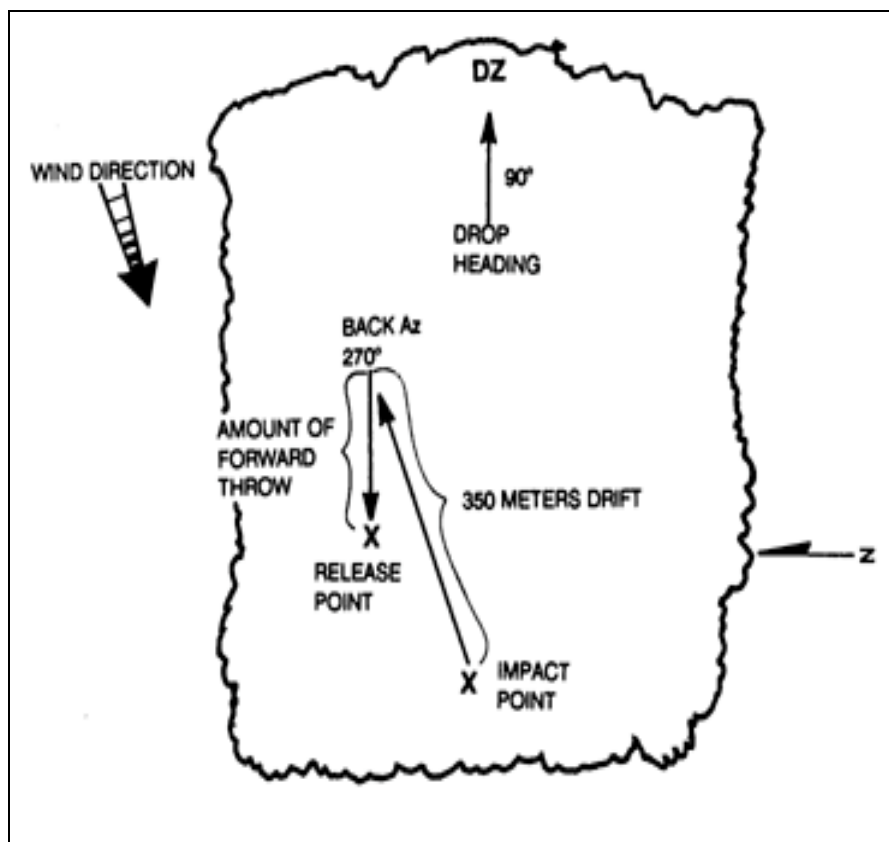
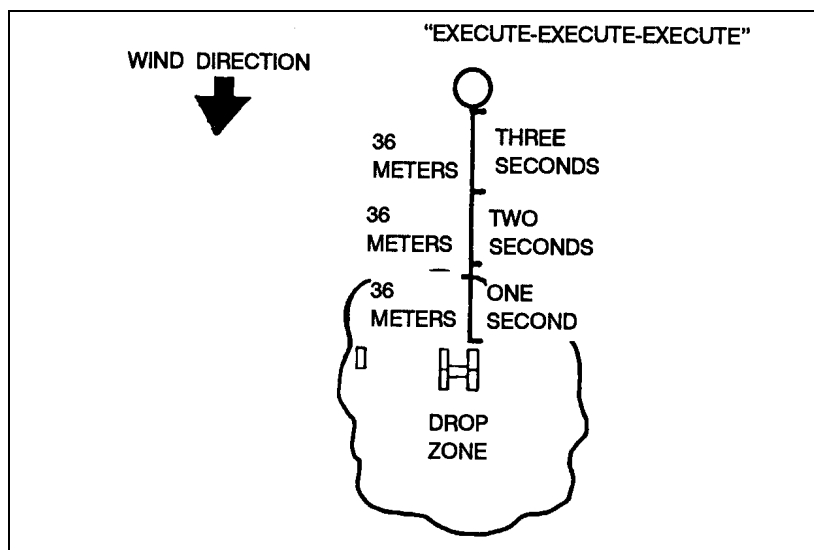

Figure 6-7. Release point location.
Figure 6-12. Example Army VIRS offset.
To determine a release point on a GMRS drop zone, Air Force fixed wing VIRS drop zone, or Army rotary wing VIRS drop zone (Figure 6-7, page 6-20)--
f. On an Army VIRS DZ, where trees obscure the RP, you may use an offset (Figure 6-12, page 6-26).
(1) An UH-60A is traveling at a speed of 70 knots (about 36 MPS).
(2) RP location is 108 meters into the wood line.
b. Chooses the VIRS DZ just as he would choose a GMRS or rotary-wing VIRS release point. (Figure 6-7, page 6-20, shows how to determine the location of the release point.) Unlike those release points, however, the USAF VIRS DZ RP requires no markings.